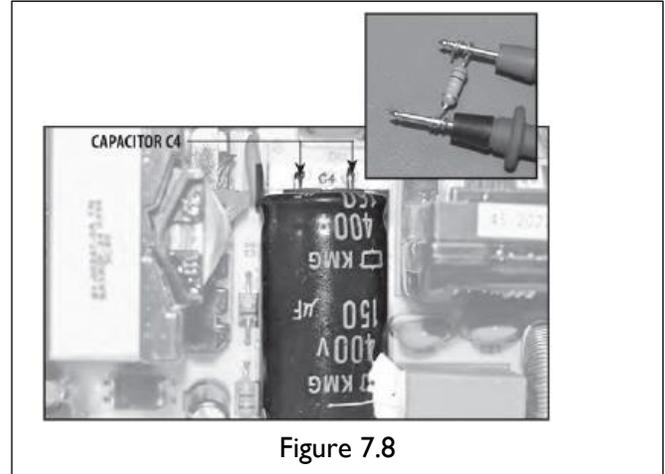

Figure 7.8
5. Discharge the 400V Capacitor by wrapping a 10k resistor around the probes of a Multi meter. Touch the leads of the Multi meter to the prongs on the capacitor to discard. **See Figure 7.8.**